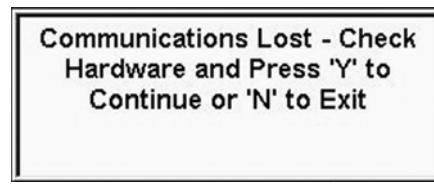

Figure 4-21 Sample—Lost communication message
- If a component is disconnected while you are navigating the application, a message displays(Figure 4-21).